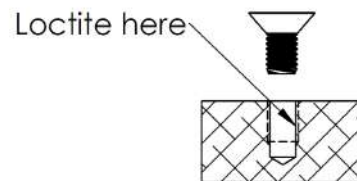

Fig.2 Blind Hole
- C. For blind holes, apply threadlocker on thread hole (fig 2).